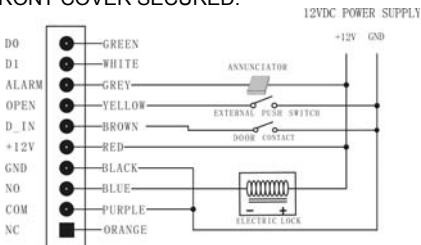

Figure 6
1. Unplug the cable harness and connect the necessary cables, (See Figure 6).